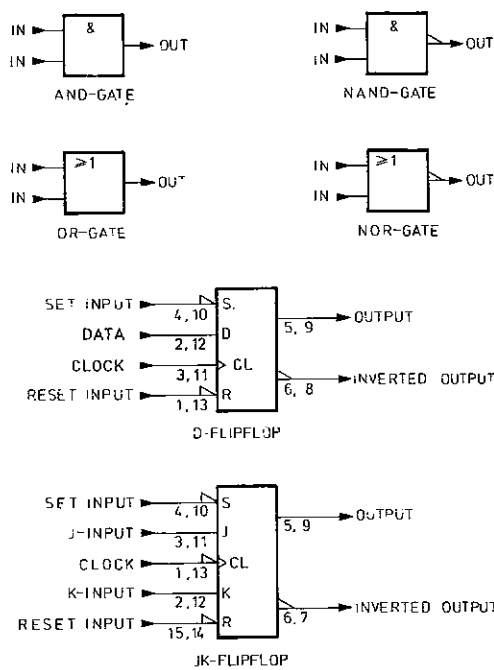

Fig. 2.9. Basic digital circuits
2.8.2. Basic digital circuits (see Fig. 2.9.)